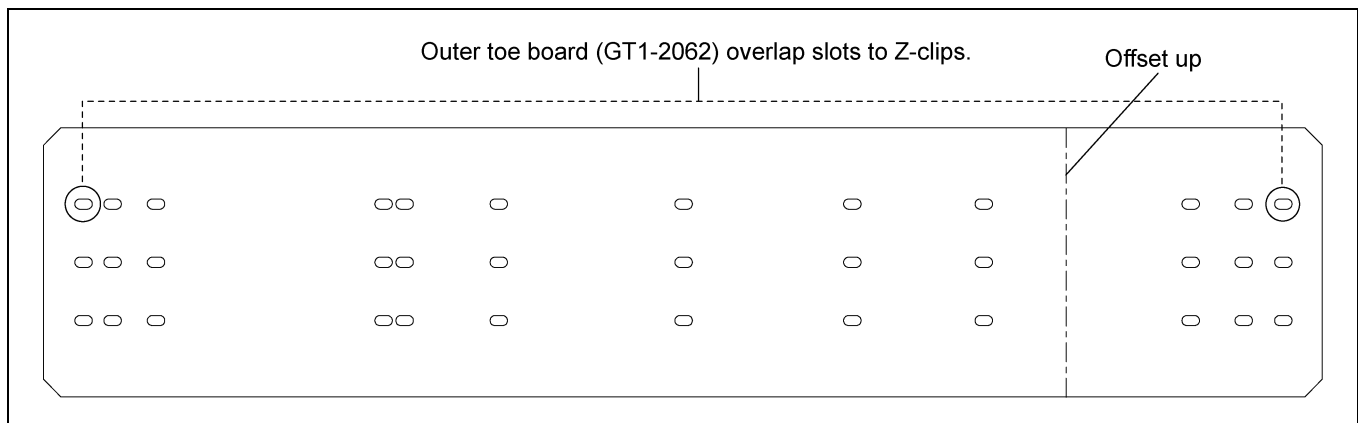

Figure 5E 30' Outer Toe Board (GT1-2062)
2. Outer toe board is arranged with overlap slots on each side. Install 30' outer toe boards (GT1-2062) to corresponding slots as shown in Figure 5E.